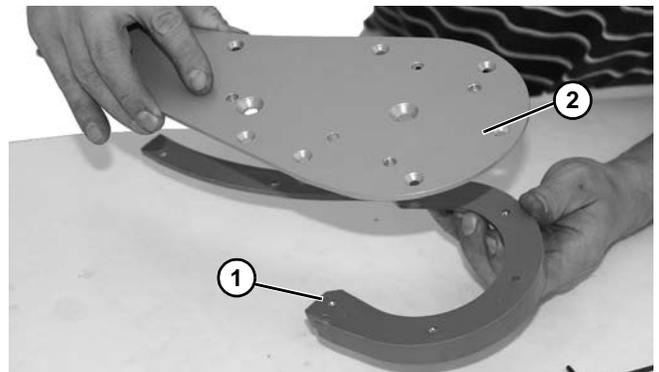

Figure 137
2. Remove retaining guide (Figure 137, item 1) from idler head plate assembly (Figure 137, item 2). Replace components, as needed.